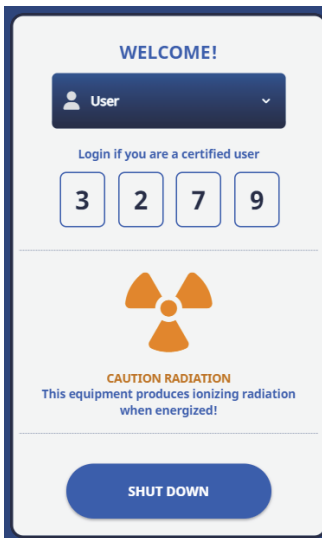

Figure 3-13 Welcome screen
3. In the Welcome screen, tap **SHUT DOWN** (see Figure 3-13 on page 70).
2. In the Welcome screen, tap SHUT DOWN (see Figure 3-13 on page 70).